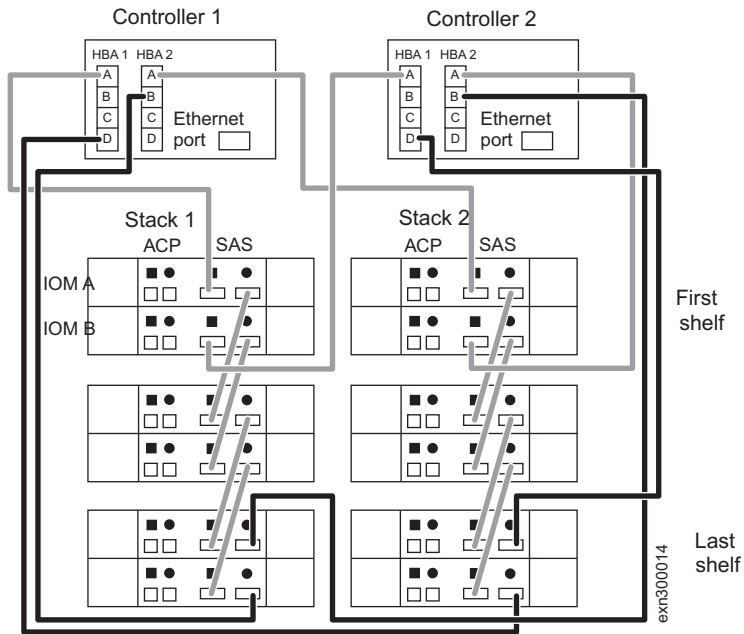

Figure 15. Cable the last shelf connections
3. Cable the last shelf connections, as shown in Figure 15 on page 11.